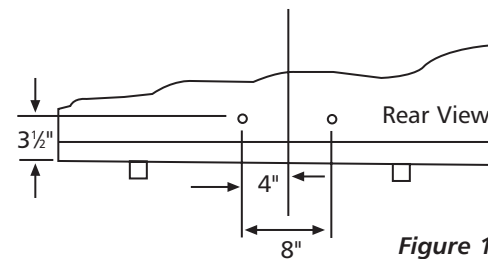

Figure 1
- Mark two points, 3½" up from the bottom of the kiln and 4" right and left of the center of the kiln as shown in figure 1.